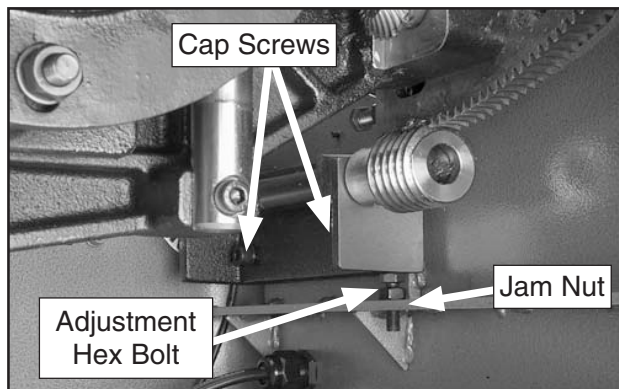

Figure 146. Table tilt handwheel adjustment.
3. Unscrew the tap screws securing the angle sensor cover, then remove it, and loosen the two cap screws and the jam nut shown in **Figure 146**.